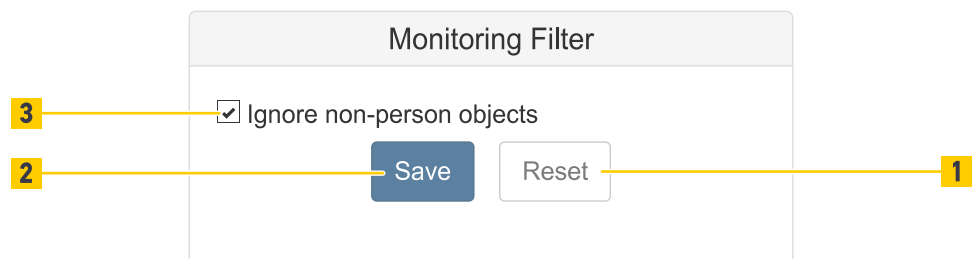

Fig. 107: Monitoring Filter
- To suppress counting of shopping carts and other objects tick the Ignore non-person objects checkbox (Fig. 107 /3).
- To go back to the last saved settings click the Reset button (Fig. 107 /1).
- To save all the settings in the device click the Save button (Fig. 107 /2).